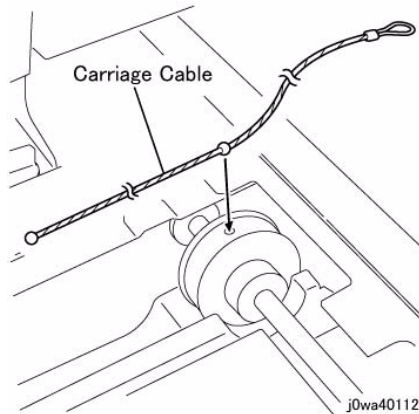

Figure 4 Insert the ball of the Carriage Cable into the groove
1. Insert the ball of the Carriage Cable into the groove of the Pulley. (Figure 4)